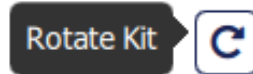

Figure 26 - Rotate Kit Button
4. If the orientation of the controls shown in Monogram Creator does not match the orientation of the Creative Console modules, select the **Rotate Kit** button to re-orient the view. (Figure 26).